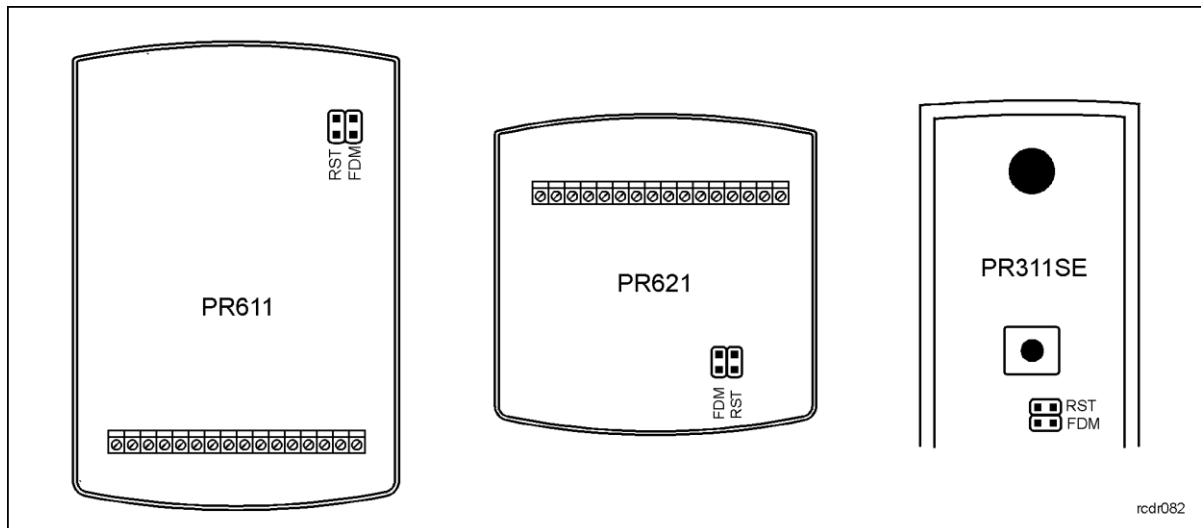

Fig. 7 Location of FDM and RST contacts inside the enclosure of controller
- Install devices in such way as to ensure easy access to screw terminals and jumpers (RST, FDM) located inside the controller – see fig. 7.
- Restart the controller (place and remove jumper on RST contacts – see fig. 7 or switch power supply off/on) – the controller shall switch all LED indicators on and shall generate continuous acoustic signal
- Place jumper on FDM pins (see fig. 7)